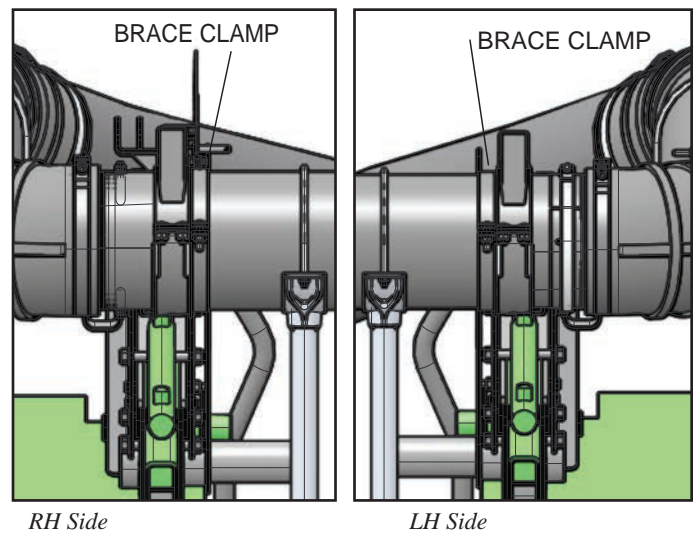
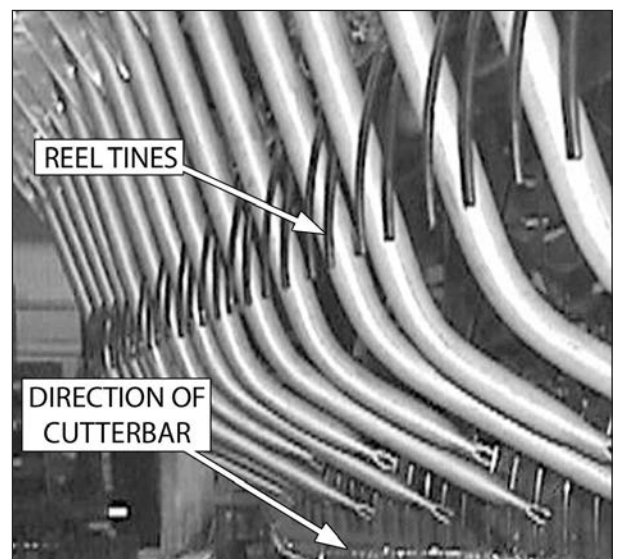
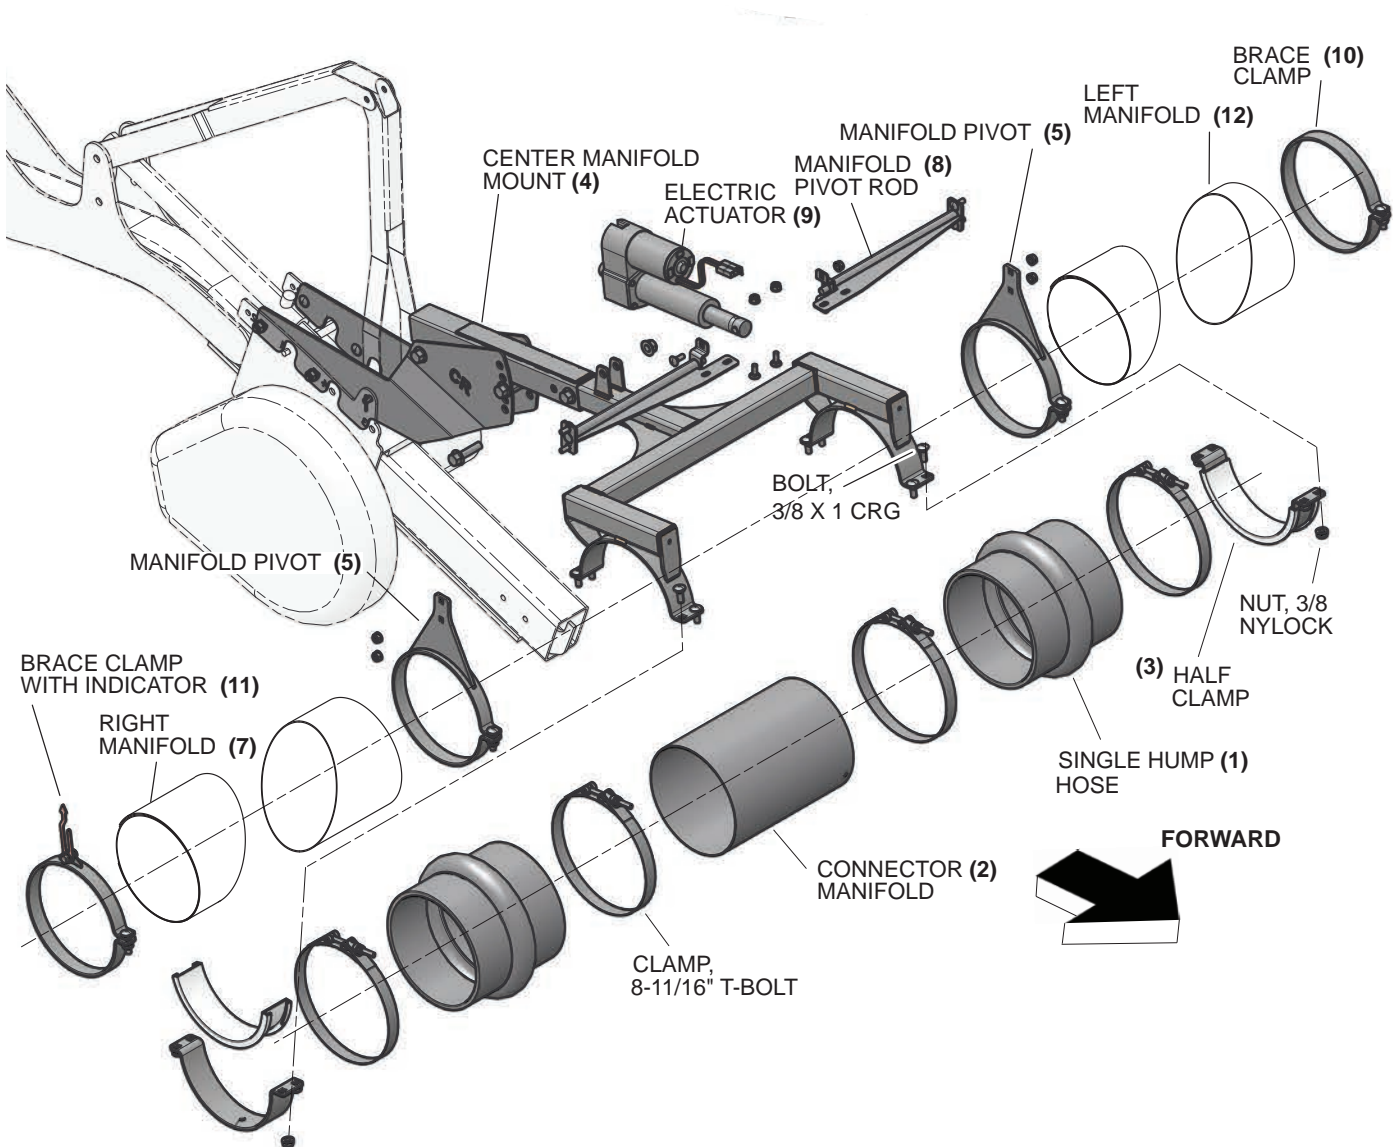

Figure 19: Brace Clamps
Figure 20: Air tube adjustment
Figure 21: Center manifold Assembly
- Loosely, install the half clamps (3) with 24 3/8" x 1" carriage bolts and nuts to center manifold mount (4). (Figure 21)
- Slide a manifold pivot (5) over the right end of the left manifold (12). Slide a manifold pivot over the left end of the right manifold (7). (Figure 21)
- Slide a brace clamp (10) over the left end of the left manifold (12). Slide the brace clamp with indicator (11) over the right end of the right manifold (7). The brace clamps should be positioned inside the manifold mounts (Figure 19).
- Slide a t-bolt clamp over each end of each single hump hose (1).
- Slide the single hump hoses onto each side of the connector manifold (2). Leave enough room in the middle of the connector manifold to install an air tube. (Figure 21)
- Attach a manifold pivot rod (8) to each manifold pivot (5) using two 5/16 x 7/8 carriage bolts and nuts. (Figure 21).
- Attach the base end of the electric actuator (9) to the center manifold mount (4) with a 1/2" x 2-3/4" bolt and nut.
- Adjust the manifold so the drop tubes point towards the cutterbar. The reel tines should extend past the air tubes. Manually turn the reel to ensure that the tines follow the curve of the air tubes as they rotate downward. It will be normal for the tines to slightly contact the drop tubes. (Figure 20)
16. Slide the left brace clamp **(10)** against the inside of the manifold mount and tighten the clamp on the manifold. (Figure 21)
18. On single flow headers only, install the end cap using 8-3/8" T-bolt clamp on LH of manifold (Figure 21).